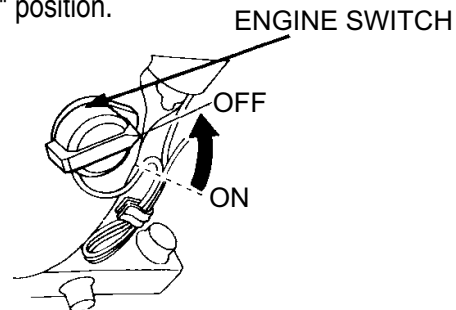

Figure 21. Engine ON/OFF Switch (OFF Position)
2. Place the engine ON/OFF switch (Figure 21) in the "OFF" position.